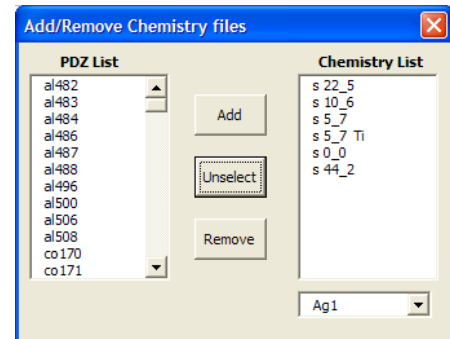

Figure 6
7.4. **SELECT** *Add/Remove Chemistry Files*. A window will appear (Figure 6).